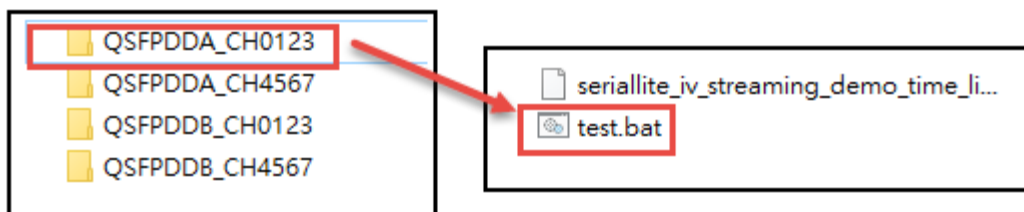

Figure 9-15 Run the bath file for demonstration
3. Go to the path: \Demonstration\seriallite4_example_design\demo_batch and chose a channel you want to test (such as **QSFPDDA_CH0123**, see **Figure 9-15**). Execute **test.bat** in the folder to configure FPGA. **Figure 9-16** shows the screenshot of configure success. **Then, do not close the terminal windows, please keep this window open.**